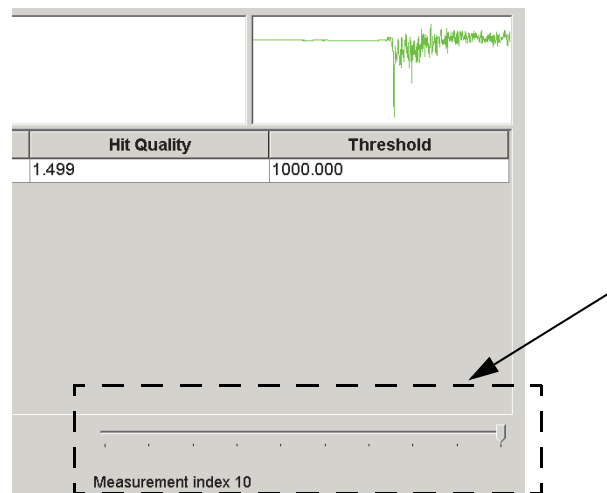

Figure 86: Slider to show single evaluation results
- E) In case of multiple measurements a slider allows to have the IDENT evaluation results shown of each single measurement. Move the slider to the respective position to see the evaluation result. The *Measurement index 10* annotation below the slider in figure 86 means that the tenth evaluation result of a series of 10 measurements is shown in the table.